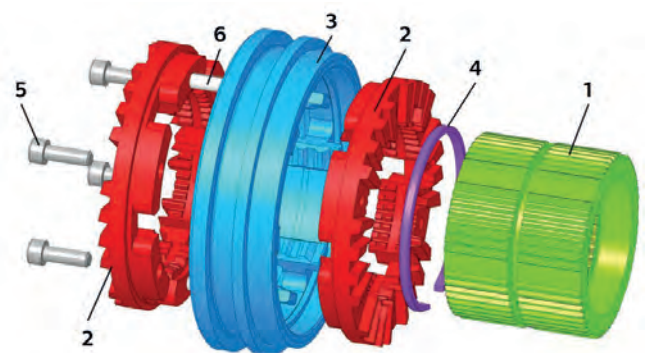

Fig. 1 Final dog clutch with blocking mechanism design (1-hub; 2-sliding gear; 3-gearshift sleeve; 4-blocking ring; 5-screws; 6-pins).
The clutch assembly (Figure 1) includes a hub (1) on the gearbox shaft, a sliding gear (2) that moves axially to engage gears, a gearshift sleeve (3) for controlling movement, and a blocking ring (4) to secure the sliding gear in positions. The sliding gear is split into two halves connected by screws (5) and pins (6). One blocking ring locks the sliding gear in all three positions (engaged/neutral/engaged) and secures the gearshift sleeve in neutral. No changes to the standard MT/AMT gear selector mechanism are needed. The design's uniqueness is confirmed by Patent No. 307443[8] and the utility model „Schaltungskupplung“ [9]. Following design optimization, prototypes of dog clutches with a blocking mechanism were produced. Two clutches for the MQ200 gearbox were made to engage 1st, 2nd, 3rd, and 4th gears, see Figure 2. The prototype production was funded and supported by ŠKODA AUTO.